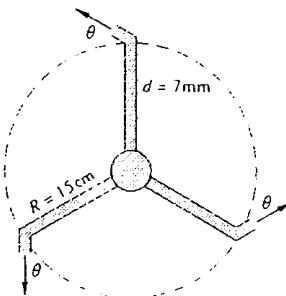

Fig. P3.114
**3.114** The 3-arm lawn sprinkler of Fig. P3.114 receives 20°C water through the center at 2.7 m3/hr. If collar friction is neglected, what is the steady rotation rate in rev/min for (a)  $\theta = 0^\circ$ ; (b)  $\theta = 40^\circ$ ?